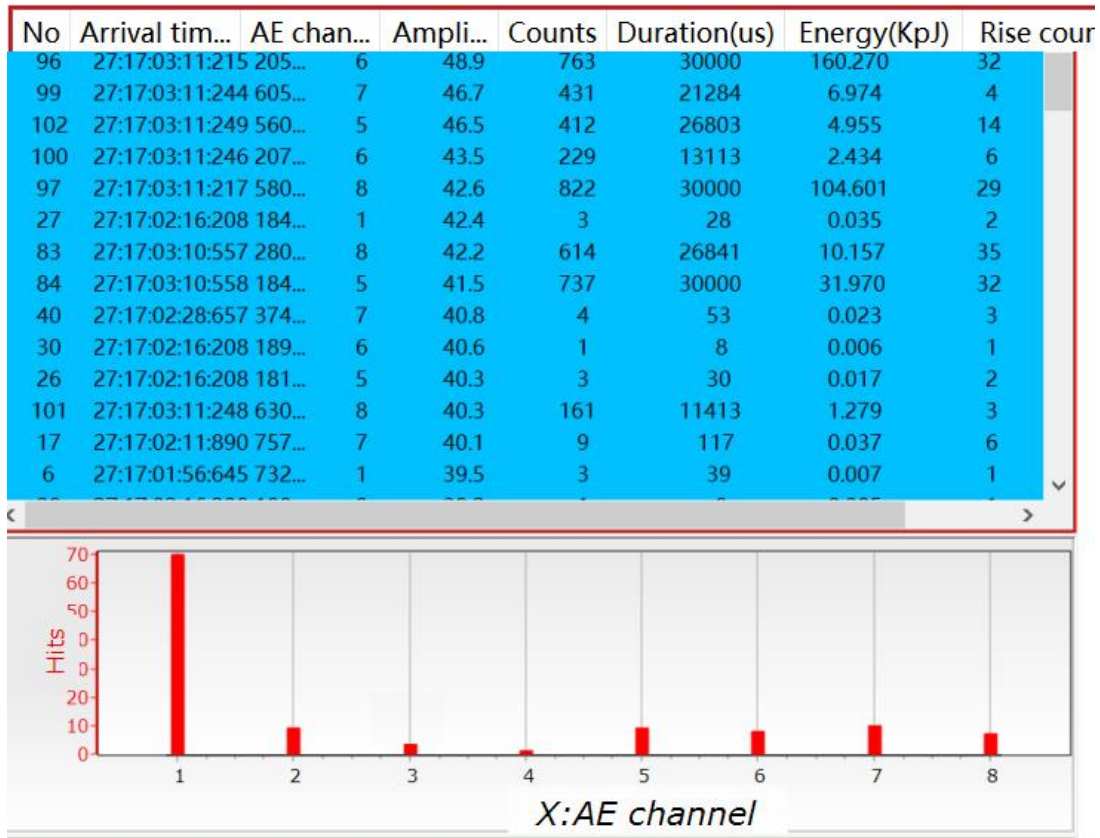

Fig. 7-17 Background Noise Measurement Results
- 4) Find the maximum amplitude value that also appears most frequently to be the background noise level. As shown in Figure 7-17, the most frequent value (noise level) is around 40dB. But some channels have higher noise values constantly so that it is necessary to redo the coupling of those channels;